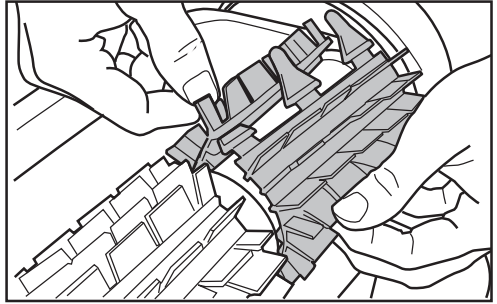

Figure 18. Pull Tabs Through Each Slot
4. Thread each tab into the slot provided and gently feed it through until the heel comes out at the other side of the slot (Figure 18).